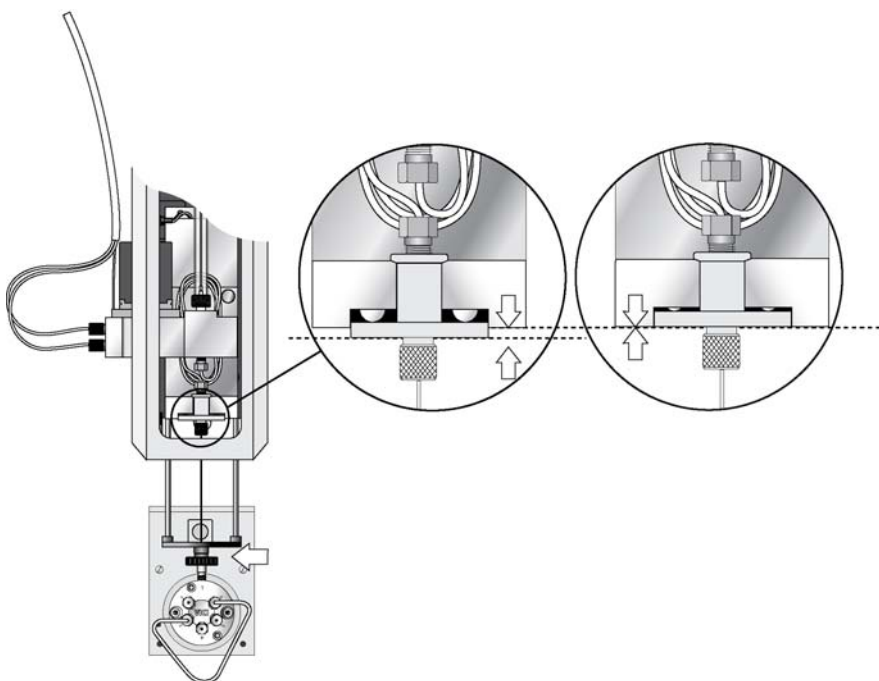

Figure 50 Teaching the Needle Penetration Depth Value
- 6** Move down stepwise until the bottom of the cross bar of the DLW Needle Holder Assembly is flush with the lower line of the 'DLW Needle Adapter Block' (see Figure 50 on page 104).
If a 'click' sound occurs, this means the ball-spring loaded **'Needle Holder'** is completely compressed. **STOP** the Z-axis downwards movement immediately. Rotate the outer knob stepwise in the opposite direction until the gap in the spring loaded **"Needle Holder"** is approximately 1 mm, or the bottom of the **'Holder Assembly'** is flush with the lower surface of the **'Needle Adapter Block'**, as in Figure 50 on page 104. Repeat the needle penetration test and verify the needle penetration depth.
The ball-spring loaded 'Needle Holder' presses the square cut needle tip firmly against the bottom of the valve body. This ensures a constant seal during the injection process Figure 50 on page 104.